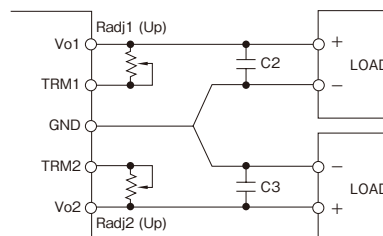

Fig.3-2: Connection for output voltage trim up
- V_{o1}/V_{o2} terminal: to adjust to higher output voltage; Fig. 3-2 or